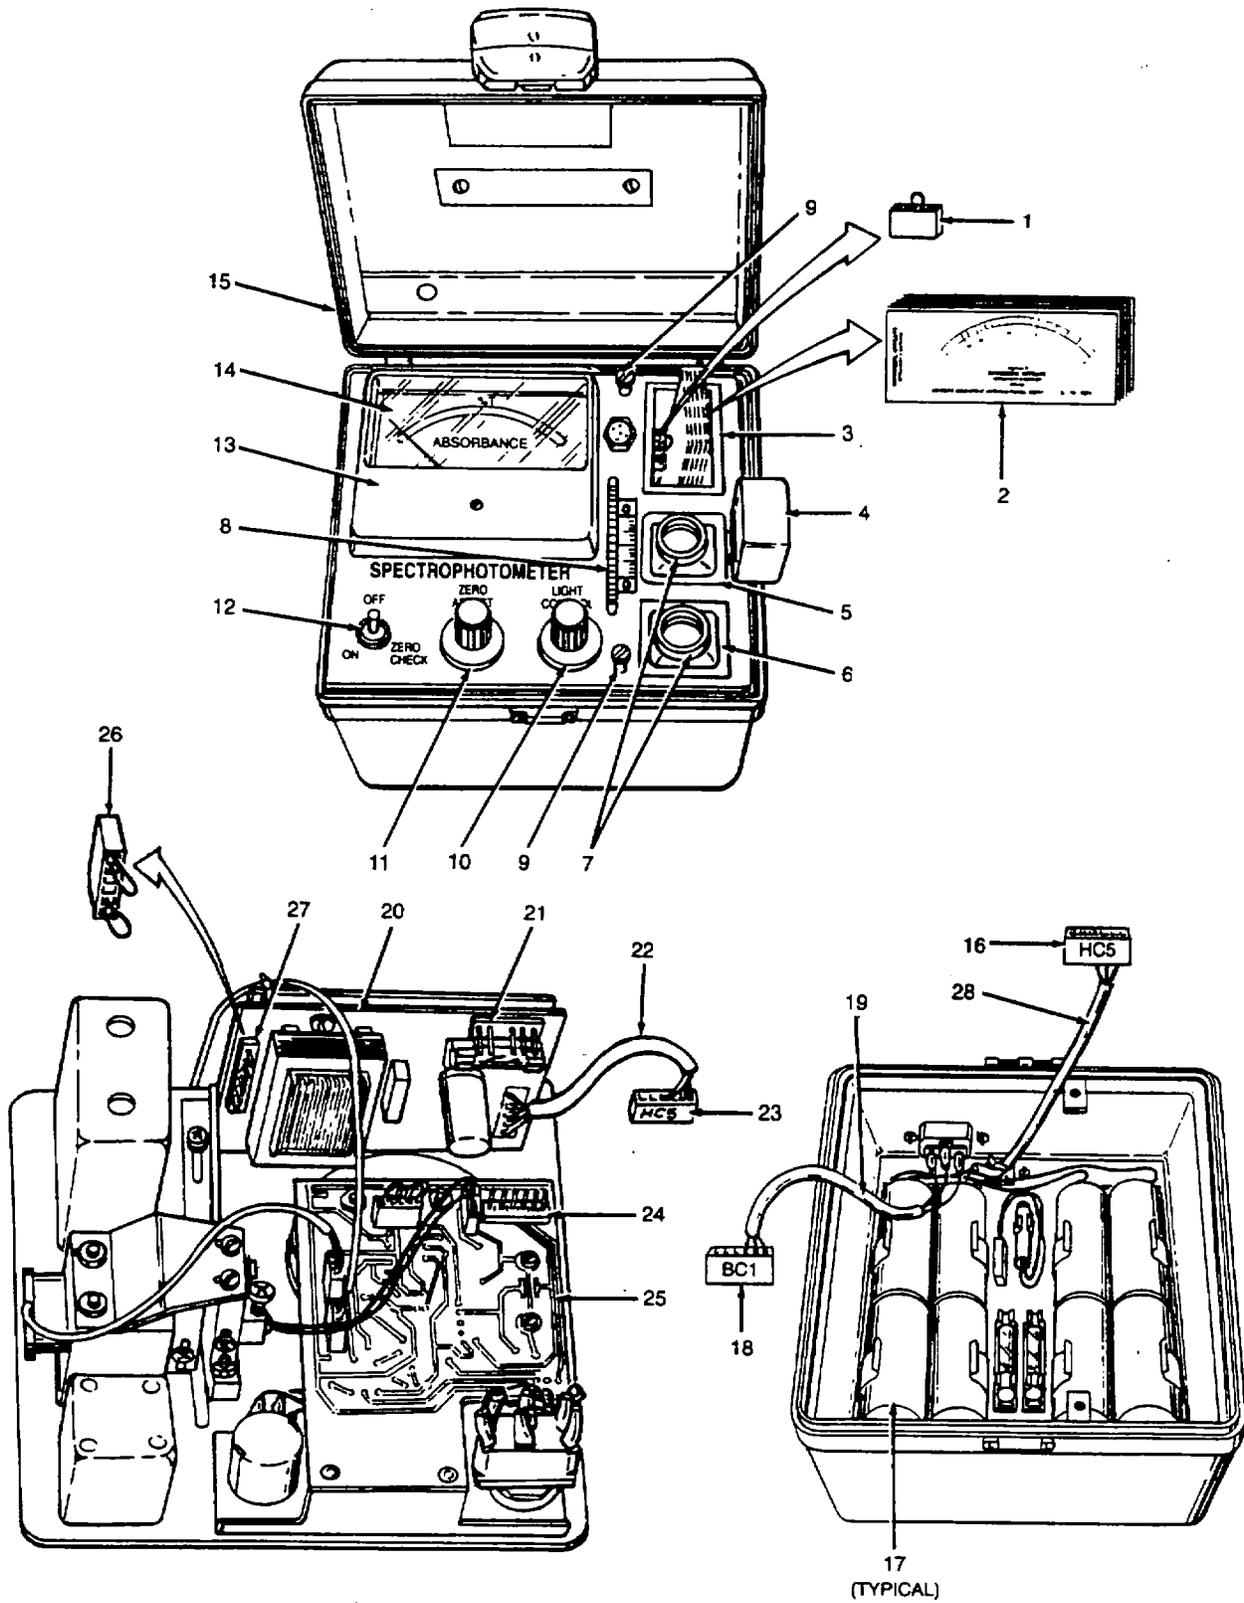
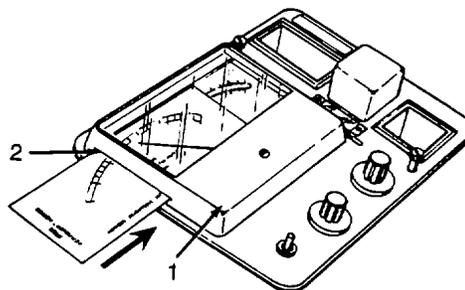

Figure 2-5. Spectrophotometer Features and Power Conversion.
Figure 2-6. Meter Scale Card Insertion.
In addition to the controls and indicators described in paragraph 2.1, the Spectrophotometer has several features that the operator must be familiar with to operate the instrument. They are discussed below (fig 2-5).
- a. Ac Power. 115 Vac or 220 Vac: Follow the steps below to set the unit for use with either 115 Vac or 220 Vac external power sources (fig. 2-5).
- (1) Unplug the power cord from the spectrophotometer and the external power source and open the case.
- b. Battery Dc Power. Eight D-size dry cell batteries(17,fig. 2-5) are provided with the WQAS-PM. These are stored in the main case under the Zinc Test Kit. Follow the steps below to set up the unit for use with batteries.
(6) Install the eight D-size batteries(17, fig. 2-5) in the clips at the bottom of the case as shown in the illustration.
(7) Check all connections and batteries to ensure they are complete and fully seated. Replace the front panel and attached electronics in the case. Fasten the thumb screws(9). Replace the sample cells(7) and meter scale cards(2).
The Spectrophotometer includes two identical sets of eight meter scale cards(2, fig. 2-5 & fig. 2-1). Test procedures using the Spectrophotometer specify which meter scale card should be used for that test. The specified card is installed (fig. 2-6) by sliding it in the slot(2) at the left of the meter housing(1). Make sure the card is pushed as far to the right as it will go.
- b. To prolong bulb life and protect optical elements when not in use, set the light control(10, fig. 2-5) for approximately 20 on the %T meter scale(14). Set the wavelength dial(8) to 550 nm.
Before every test-the Spectrophotometer should be "zeroed." Follow these steps (fig. 2-5).
- c. Push the on/off toggle switch(12) to the right to the ZERO CHECK position. Hold it there.
d. Turn the ZERO ADJUST knob(11) until the needle indicates 0.0 on the %T (percent transmittance) scale(14).
2.6.2.7. Using the Spectrophotometer (fig. 2-5).